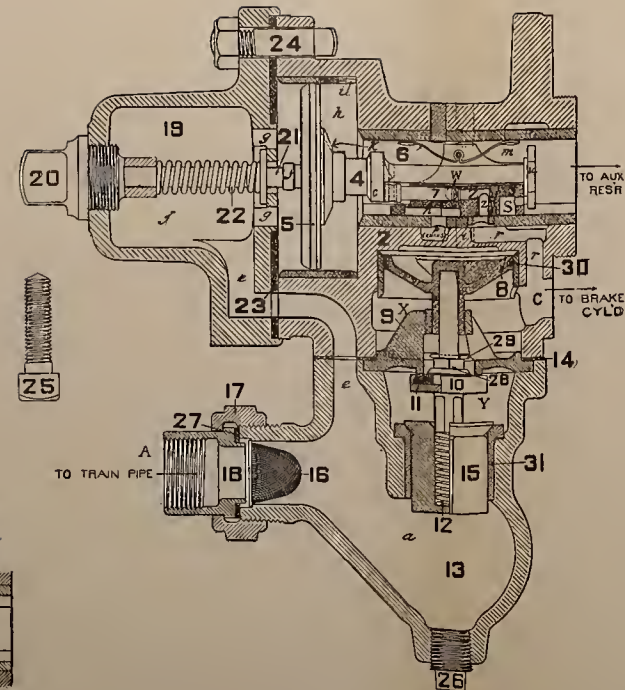
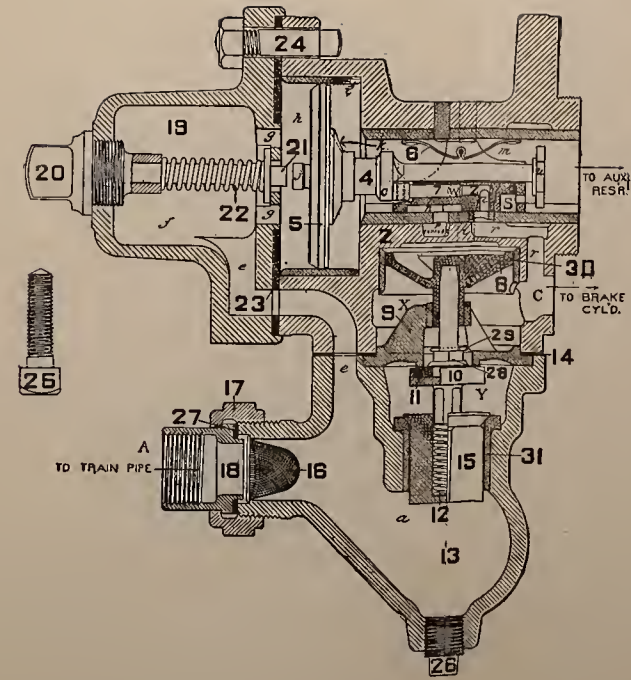

Fig. 289. Service Application.
Fig. 290. Lap Position.
A. By gradual pressure reduction, say of 5 pounds at first, leaving only 65 on the train-pipe face of the main piston, so that the auxiliary reservoir pressure forces the main piston to the left (Fig. 289), closing groove *i*, shutting off the auxiliary reservoir, and unseating valve 7, opening passage *W* to *Z*. The collar on the piston stem draws the slide valve to the left, cutting off exhaust cavity *n* from passage *r*. The main piston is stopped by the graduating stem 21. Ports *z* and *r* then register, and auxiliary reservoir air flows through *W*, *Z*, and *r* to the brake cylinder at *C*. When the auxiliary reservoir pressure has got down to less than 65 pounds, the train-pipe pressure forces the main piston back and seats the graduating valve, as shown in Fig. 290 ("lap position").